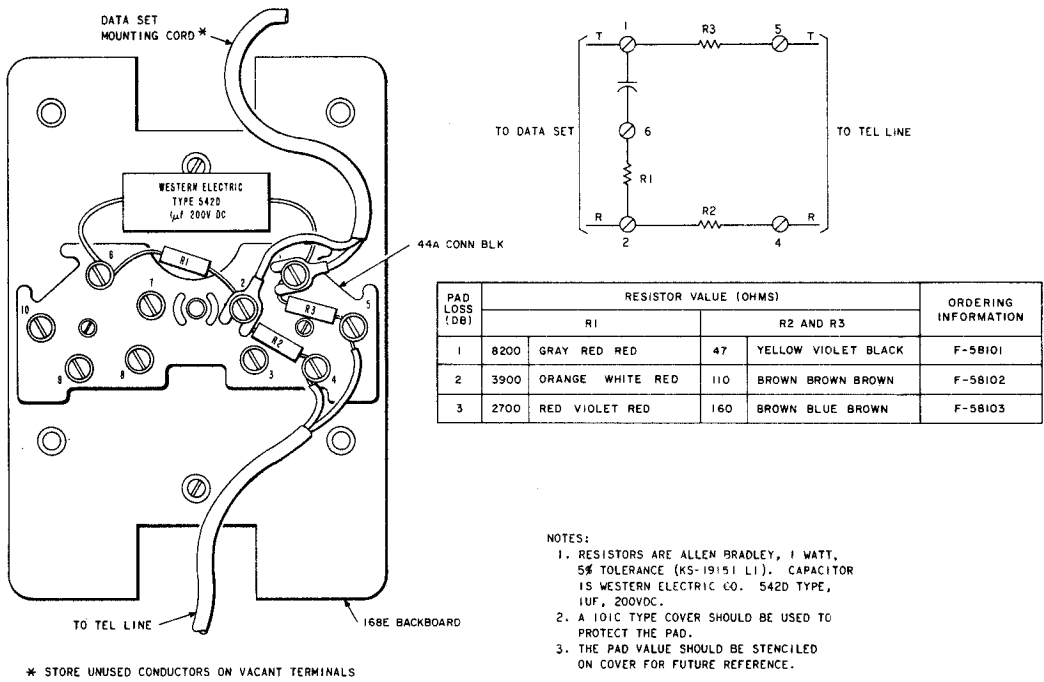

Fig. 3—Connections to Insertion Loss Pad
**4.01** The data signal power level reaching the serving central office (SCO) should be no greater than -12 dBm. Usually the average loop loss between the SCO and the data set is -3 dB or greater. This -3 dB loop loss combined with the fixed -9 dBm output level of the data set ensures that the signal reaching the SCO is not greater than -12 dBm. In some cases the loop loss is less than -3 dB, and should be padded down. To meet the required power level, it may be necessary to install a pad external to the data set. The necessary pad may be ordered assembled or may be made up in the field and installed in accordance with Fig. 3.